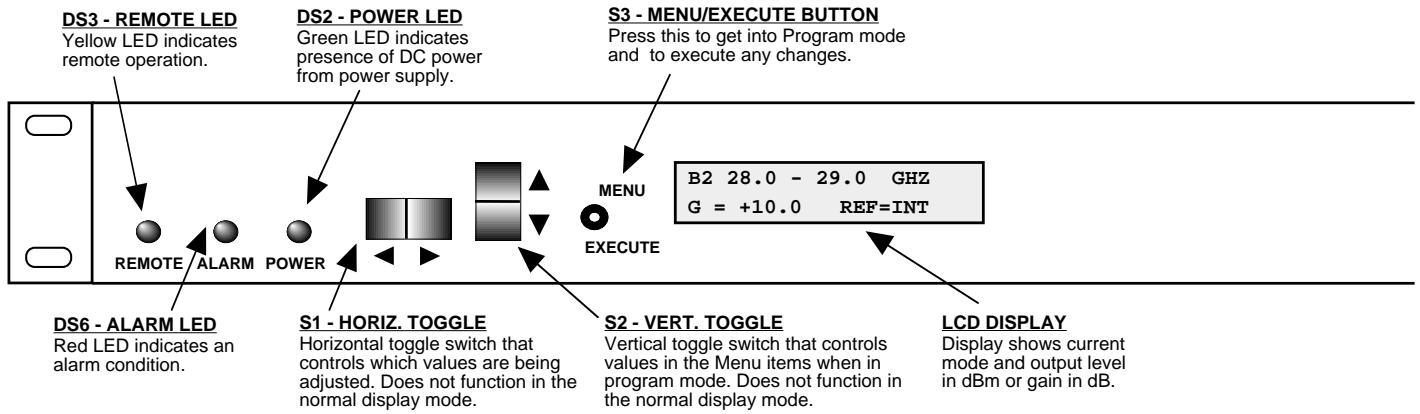

FIGURE 2.3 3116-41-310 Front Panel Controls and Indicators
Figure 2.3 shows the front panel controls and indicators.
4. Be sure DS6 (green, DC Power) is on and DS2 (red, Alarm) is off (Figure 2.3).
2.6.1 Functions - This section describes operation of the front panel controls. There are three operator switches, the LCD display and alarm indicator LEDs. All functions for the equipment are controlled by these components. The functions are (see Figure 2.3):
Alarm indications appear on the LEDs (See figure 2.3).